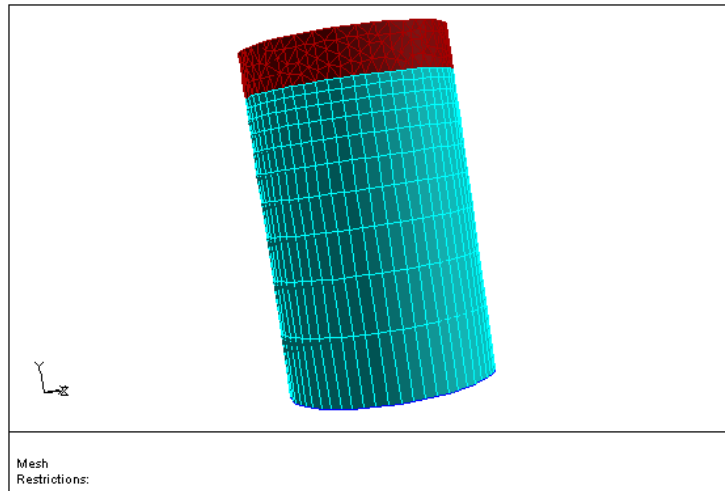

Figure 3.9: Cylinder Extended Using Prisms
9. Display the new boundaries of the cylinder (Figure 3.9).